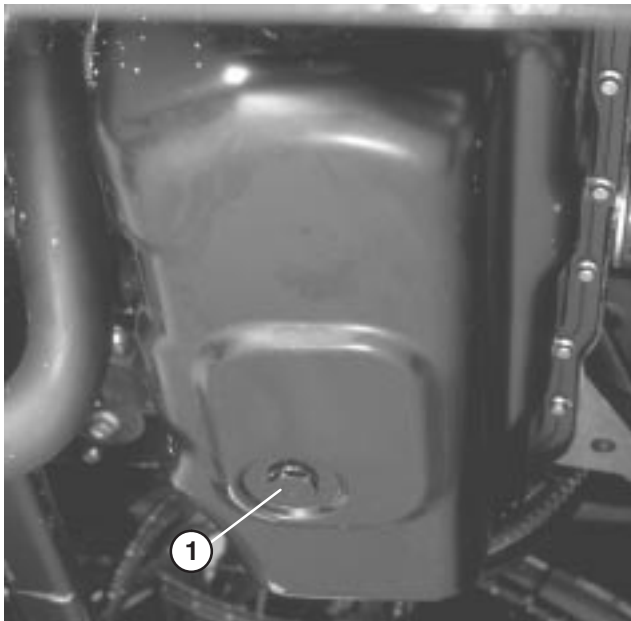

Figure 23
ENGINE OIL AND FILTER (Fig. 23–24)
1. Remove drain plug (Fig. 23) and let oil flow into drain pan. When oil stops, install drain plug and new plug seal, Part No. 74–7850.